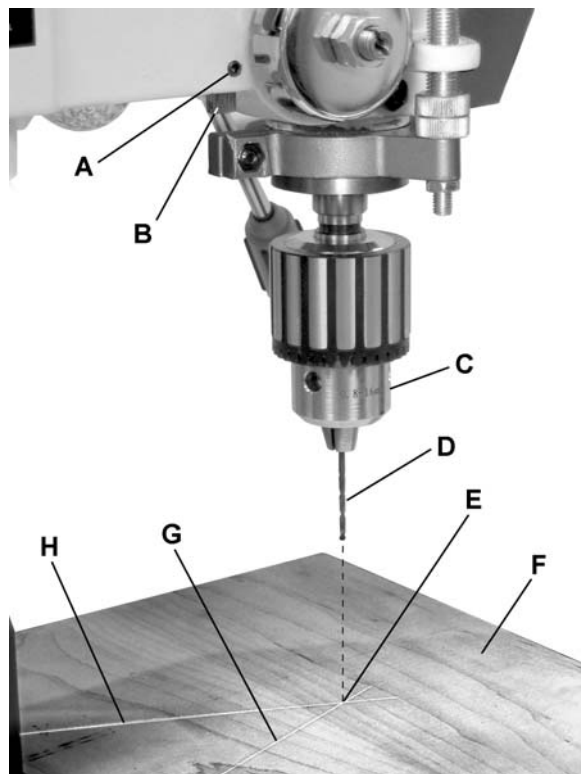

Figure 10
To align (refer to Figure 10):
2. Bring the bit down until it leaves a *slight perforation* in the board (E) then raise it back up.
4. Using a 3mm hex wrench, loosen *setscrews* (A) on both laser assemblies (only the left side laser assembly is shown in Figure 10).
5. Adjust (B) so the *laser line* (G) crosses the perforation (O). Tighten *setscrew* (A).